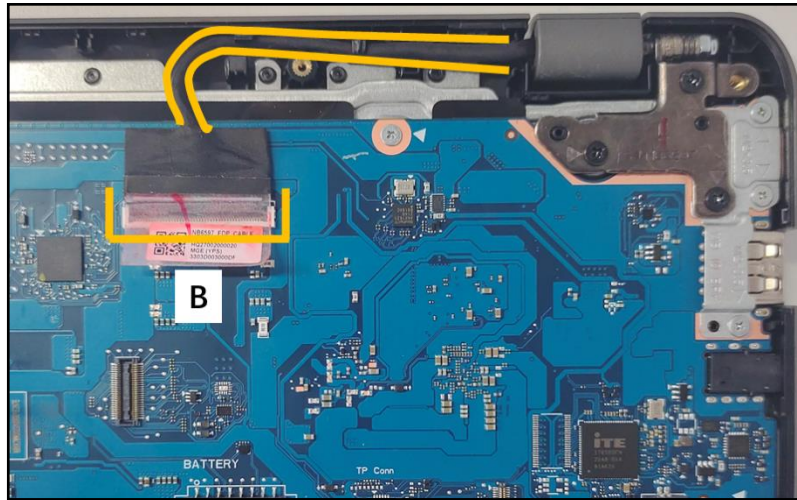

Figure 3-29. LCD Module Removal
10. Disconnect the EDP cable from the mainboard connector (B). Then unroute the cable from the cable guides (Figure 3-29).